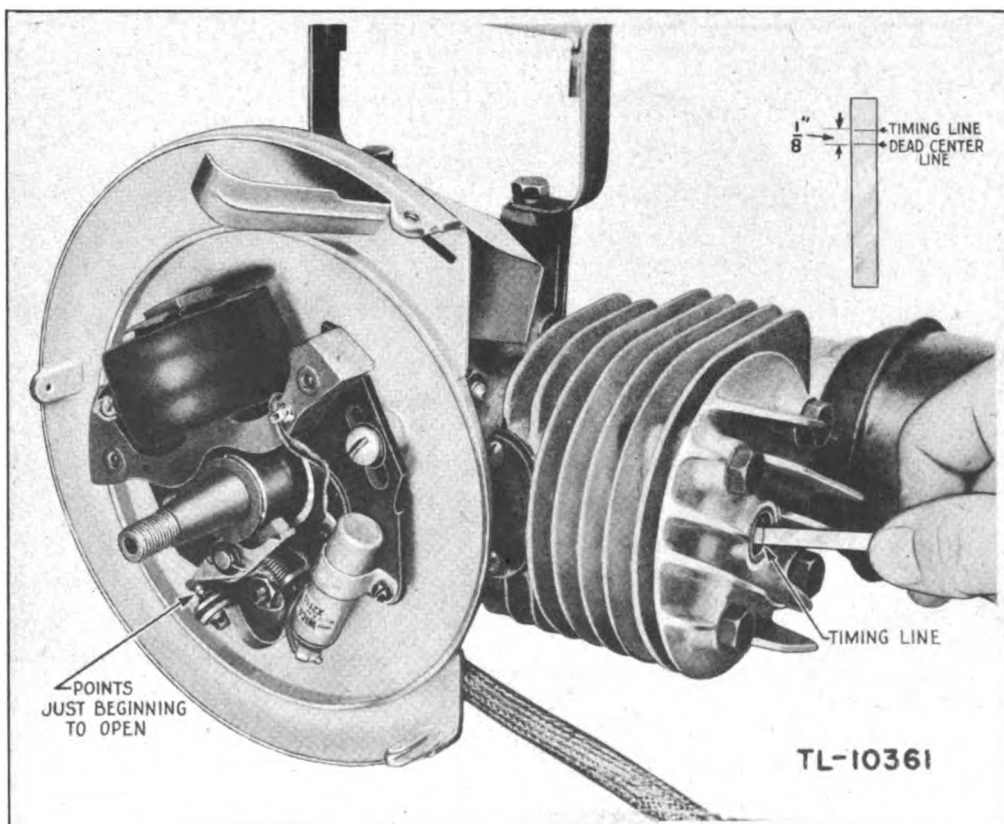

Figure 70—Timing Engine
(1) Check point opening. Remove spark plug. Turn crankshaft 419 in direction of engine rotation (clockwise) until piston reaches top dead center.
(2) Insert a small rod through spark plug hole in cylinder head 406 until it touches top of piston. Scribe a line on the rod flush with top of spark plug hole. Then withdraw rod and scribe another line up $\frac{1}{8}$ inch from dead center mark (Fig. 70). Turn engine in opposite direction of rotation (counterclockwise) about one-quarter turn.
(3) Insert the rod again through spark plug hole until it touches top of piston. Then rotate the crankshaft (clockwise) until top mark on rod is flush with top of spark plug hole.
(4) Move stator plate 461 until points just begin to break. Tighten plate by means of the two round head screws, which lock plate in place. Recheck to determine if piston is $\frac{1}{8}$ inch from top dead center when points just begin to break. If setting is correct, a spark occurs when piston is $\frac{1}{8}$ inch from top dead center.